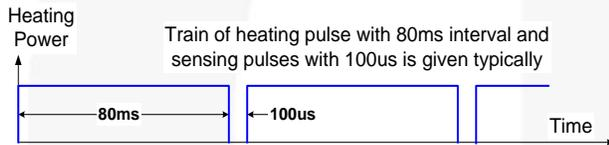
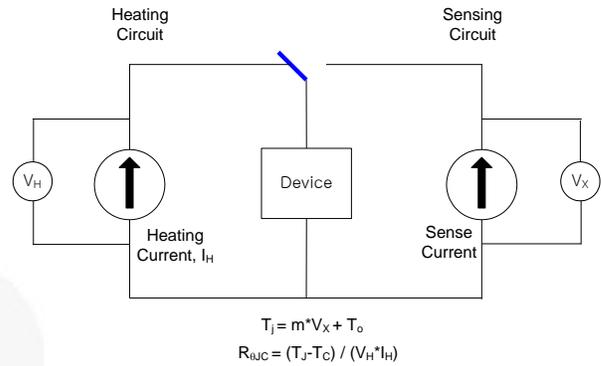

Figure 6. Example of a Power and Sample Pulses Train During the R_{JC} Measurement of a SPM-IGBT
Figure 7. Illustration of the Thermal Resistance Test Method Concept
The thermal resistance test begins by applying a continuous power of known current and voltage to the DUT. The continuous power heats up the DUT to a thermally equilibrated state. While the device is heating, a continuous train of sampling pulses monitors the TSP, i.e., the voltage drop or the same as the junction temperature. The TSP sampling pulse must provide a sense current equal to that used during the calibration procedure for obtaining equation (4). While monitoring the TSP, adjust the applied power so as to insure a sufficient rise in T_j . Adjusting the applied power to achieve a T_j increase of about 100 °C above the reference temperature will generate enough temperature difference to ensure a good measurement resolution. A typical example is shown in Figure 6.
The TSP sampling time must be very short so as not to allow for any appreciable cooling of the junction prior to re-applying power. The power and sensing pulse train shown in Figure 6 has a duty cycle of 99.9%, which for all practical purposes is considered to be continuous power. Obviously, most of the total power is applied to the DUT in Figure 7.